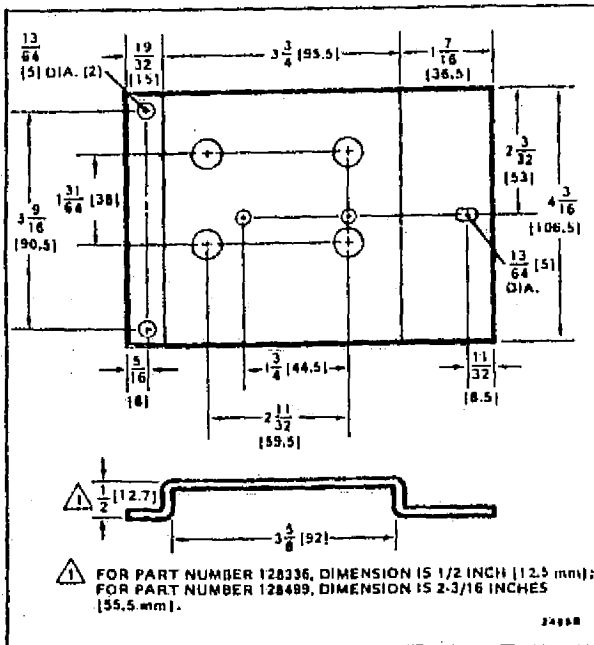

FIG. 2—DIMENSIONS OF 128336 AND 128499 BRACKETS, IN INCHES [MILLIMETERS SHOWN IN BRACKETS].
1. 16254AC Bag Assembly - mounting bracket, Part No. 128499, and screws (see Figs. 2 and 6).
5. 7640JN Bag Assembly - mounting bracket, Part No. 128336, and screws (Figs. 2 and 6).
Locate as near as possible to the equipment to be controlled. Mounting brackets and bag assemblies for direct drive and crank arm drive are furnished with Tradeline models of these motors or may be ordered separately if required for the installation. Refer to the Accessories section for specifications, Figs. 2 and 3 for dimensions, and Figs. 4-7 for installation drawings.